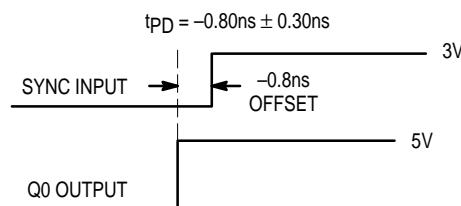

Figure 2. Depiction of the Fixed SYNC to Q0 Offset (t_{PD}) Which Is Present When a 470KΩ Resistor Is Tied to V_{CC} or Ground
2. A 470KΩ resistor tied to either Analog V_{CC} or Analog GND, as shown in Figure 2., is required to ensure no jitter is present on the MC88LV926 outputs. This technique causes a phase offset between the SYNC input and the Q0 output, measured at the pins. The t_{PD} spec describes how this offset varies with process, temperature, and voltage. The specs were arrived at by measuring the phase relationship for the 14 lots described in note 1 while the part was in phase-locked operation. The actual measurements were made with a 10MHz SYNC input (1.0ns edge rate from 0.8V to 2.0V). The phase measurements were made at 1.5V. See Figure 2. for a graphical description.